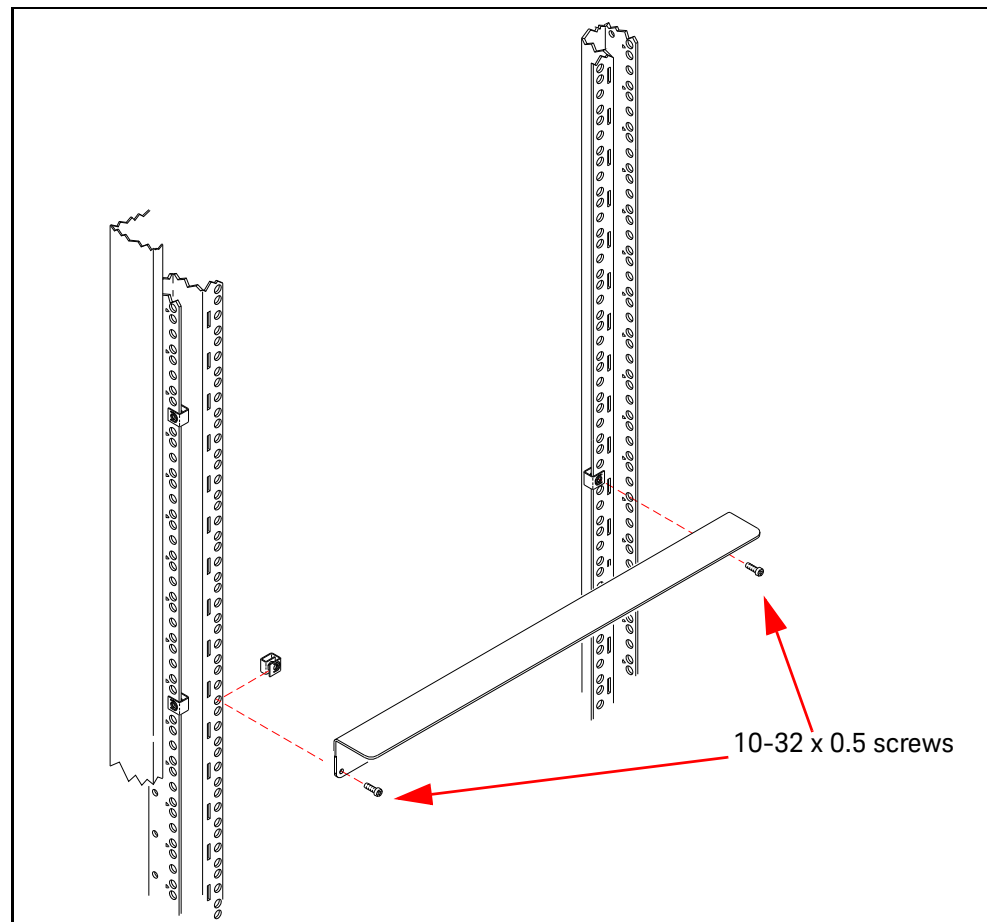

Figure 4 Attaching the Support Rails to the Rack.
INSTALL THE SUPPORT RAILS UPSIDE DOWN IN THE RACK! To provide adequate air flow to the ventilation holes on the sides of the chassis, you must install the rack slides upside down as shown in Figure 4.
- 8 Attach the support rails **UPSIDE DOWN** to the rack's inside vertical columns. Use four channel nuts and the four 10-32 x 0.5 support rail-to-rack pan head screws as shown in Figure 4.